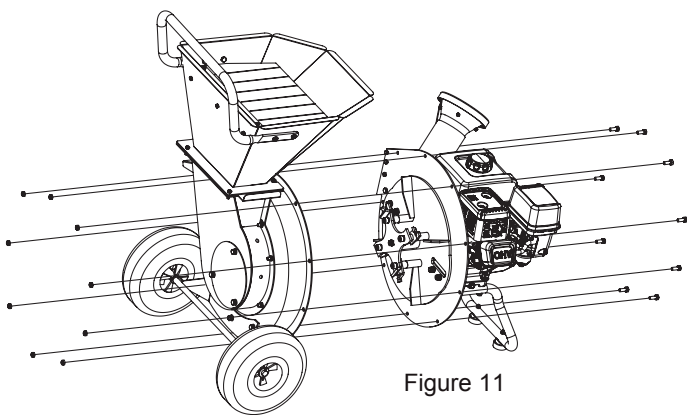

Figure 11
3. Detach the rotor housing and hopper from the rotor plate. See Figure 11.